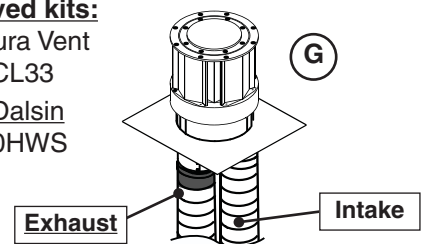

**Fig. 24-2** Prepare, route, & connect pipes
4. Stretch the vent pipes to the measured length. Or, if necessary, cut the pipes to the measured length using snips or a hacksaw. See Fig. 24-2, D.
5. Mark each end of one pipe. This is the exhaust. See Fig. 24-2, E.
6. Carefully route the pipes through the chimney (see Fig. 24-2, F).
7. Connect the termination cap to the pipes as instructed in the manufacturer instruction (see Fig. 24-2, G, and Fig. 24-3.